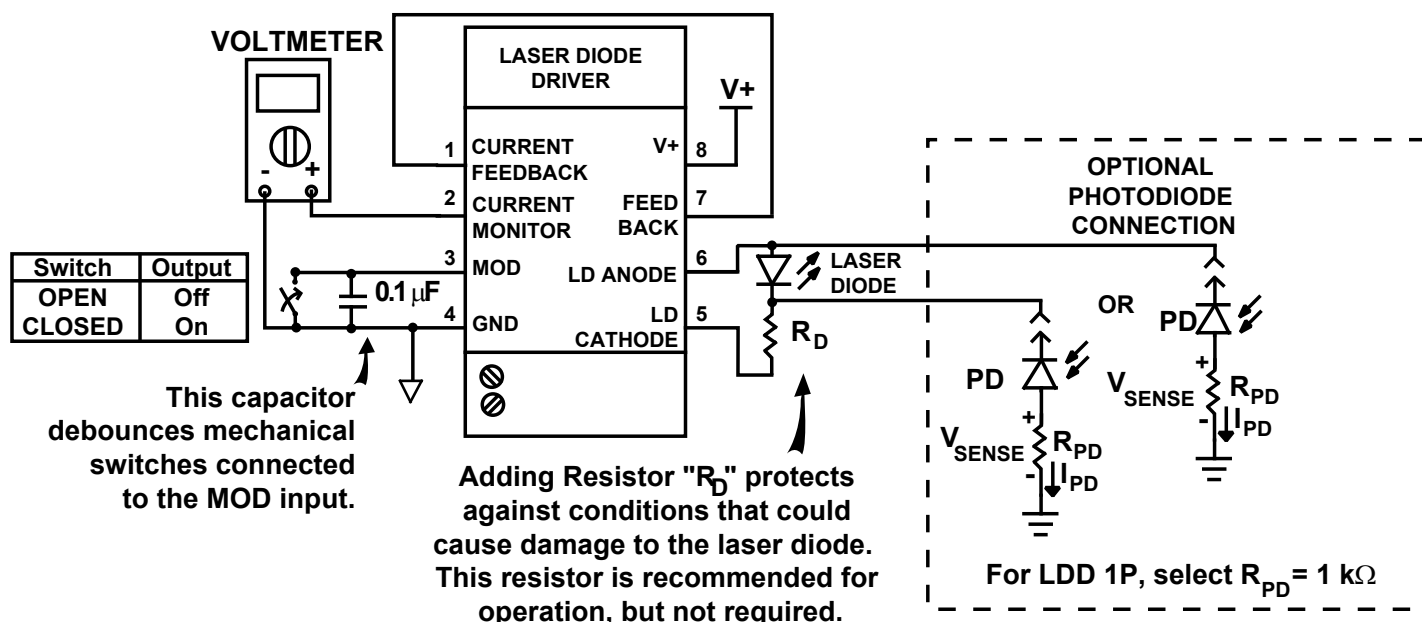
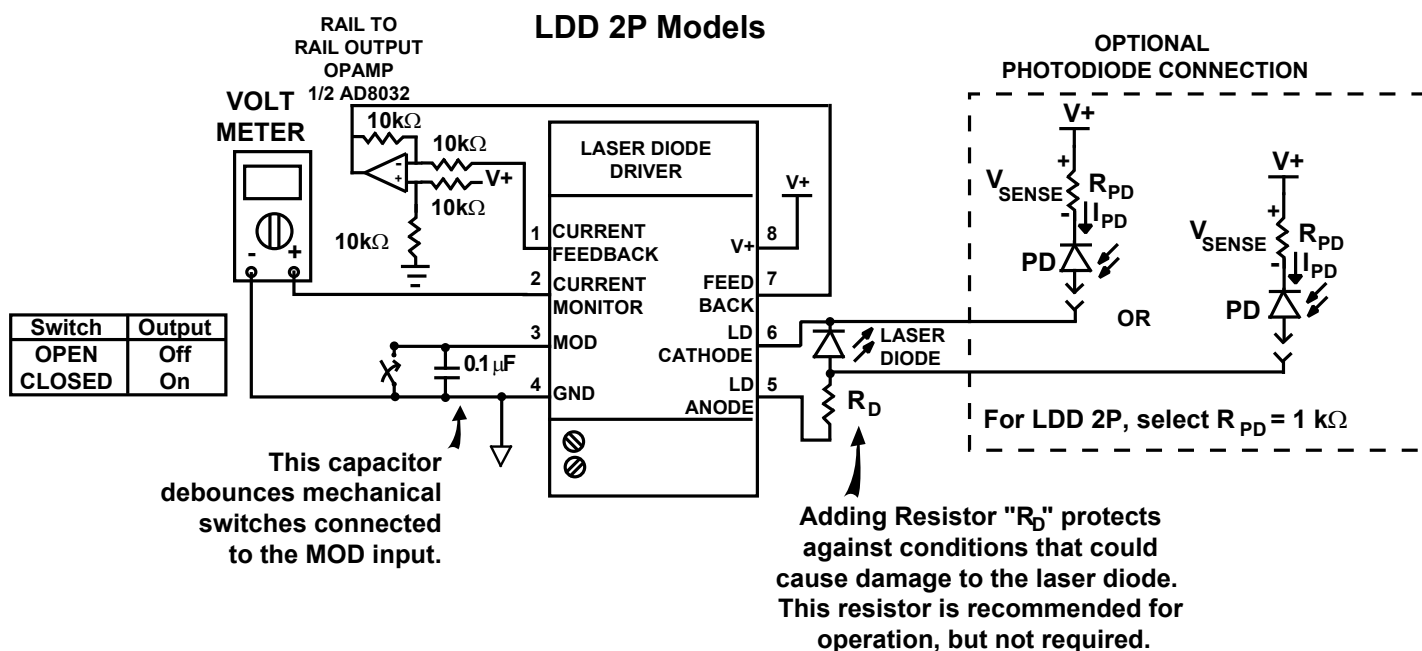
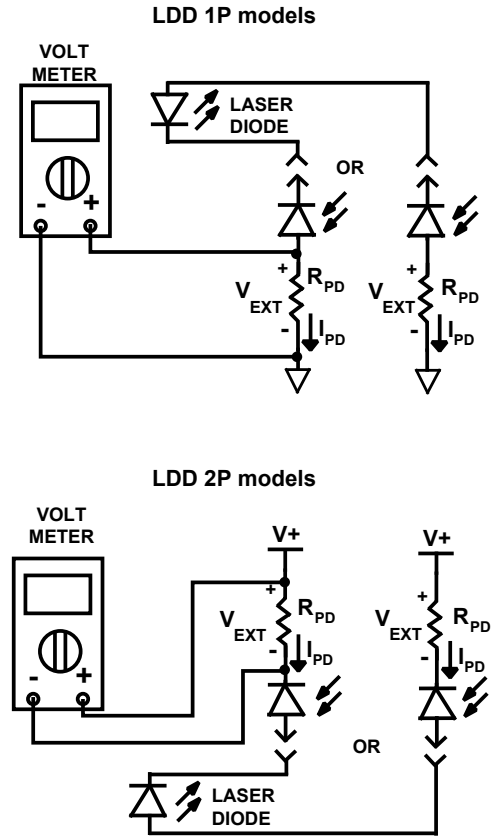

Figure 6. Wiring diagram for LDD 1P models. For use with Type A and Type B diode lasers.
Figure 7. Wiring diagram for LDD 2P models. For use with Type C diode lasers.
Figure 14. Connect the voltmeter across the external resistor.
**Figure 5** through **Figure 7** give the wiring diagrams to operate the different LDD P models in Constant Current mode.
Figure 6 below shows the wiring diagram for LDD200 1P and LDD400 1P models. Additional discussion of resistor  $R_D$  can be found on page 16 for factory recommendation, and on page 19 for custom value recommendation.
Figure 7 below shows the wiring diagram for LDD200 2P and LDD400 2P models. Additional discussion of resistor  $R_D$  can be found on page 16 for factory recommendation, and on page 19 for custom value recommendation.
If you wired an external photodiode (see **Figure 6 & Figure 7**), attach the leads of a voltmeter across the external resistor as shown in **Figure 14**.